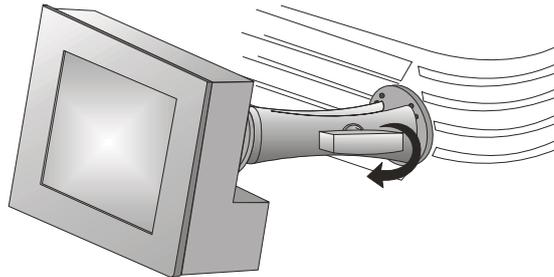

Figure 2-4
2. Tighten the mounting arm until it fits snug on the ball joint. **Figure 2-4**